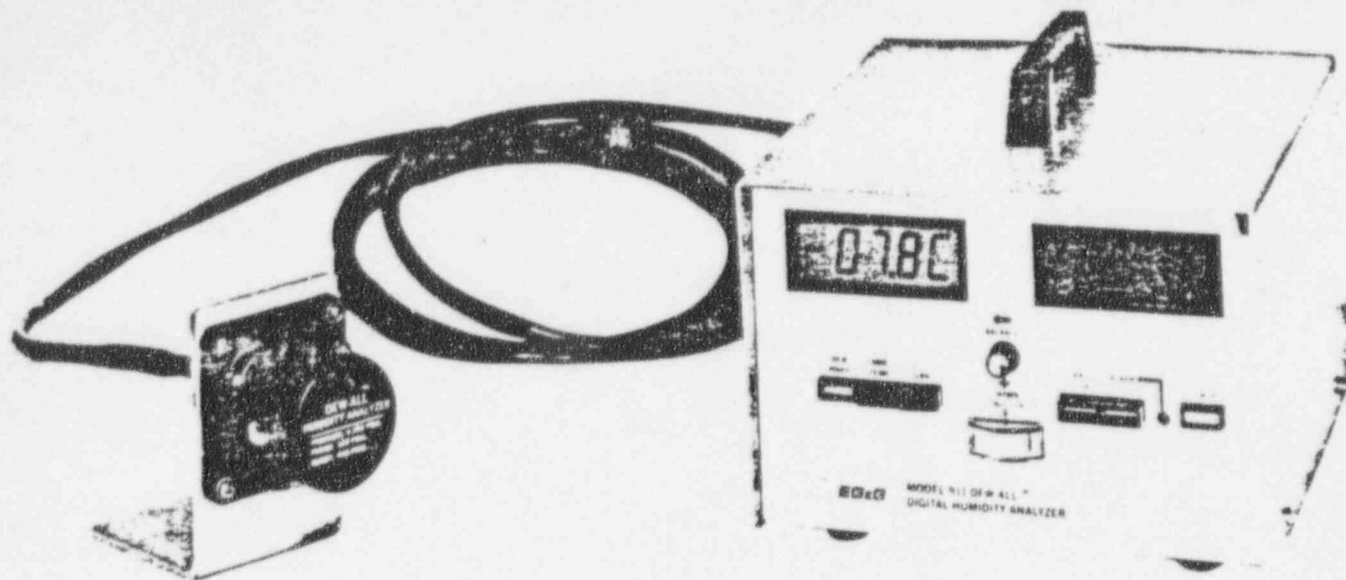

FIGURE 1-11. MODEL 911-RK REMOTE MOUNTING KIT ACCESSORY
1.2.9 Model 911-RK Remote Mounting Kit Accessory (Figure 1-11)